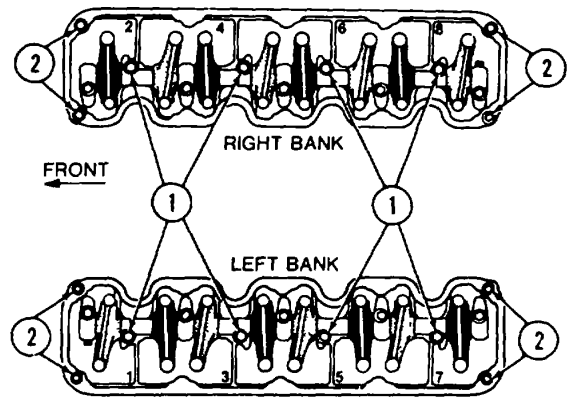

Figure 48.
2. Place new extension gasket on each cylinder head and install extension (Figure 48). Tighten bolts to proper torque. See Figure 48).